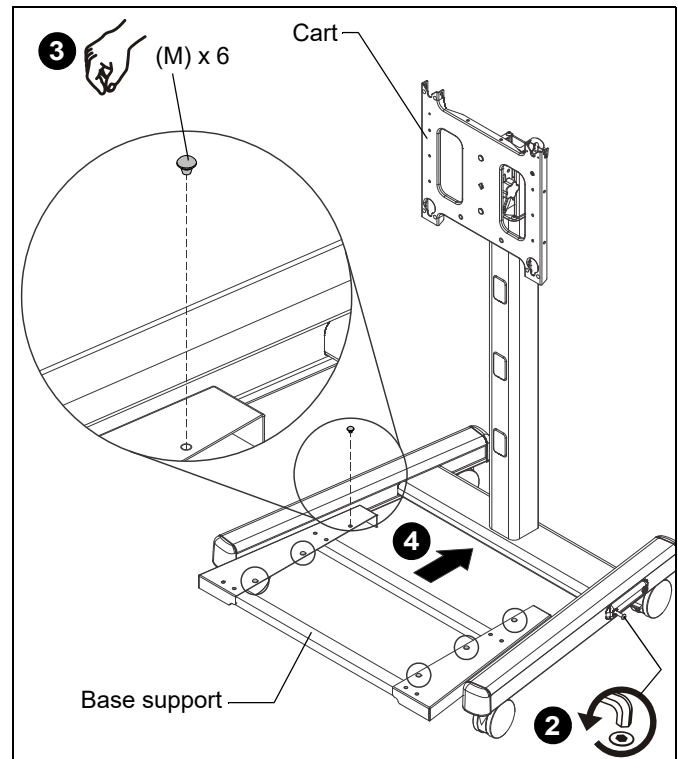

Figure 3
3. Add six bumpers (M) to top of base support. (See Figure 3)